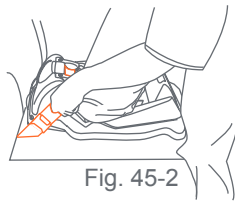

Fig. 45-2
- Locate the **LATCH** anchors in the vehicle seat (Fig. 44-2). Once located, snap the Safety Seat **LATCH** connectors onto the steel rod (Fig. 45-1). Listen for the click and check that both connectors are firmly attached to the anchor rods by pulling outward on the connectors (Fig. 45-2).
6. Proper installation of the Base requires that the **LATCH** webbing be very tight. To tighten the webbing, push down hard with your knee or hand on the Base while pulling upward on each webbing end. The webbing will automatically lock in place. **Check that there is no slack in the webbing on both sides of the base and that the base is tightly installed.** (Fig. 45-2 and 45-3).
7. Check that nothing is on top of the base or anything that will interfere with the proper latching of the Safety Seat to the Base. Place the Safety Seat onto the Base and push down until the Safety Seat latches securely to the Base and you hear a click. Pull upward on the Safety Seat to check that the Safety Seat is securely latched onto the base (Fig. 45-2).